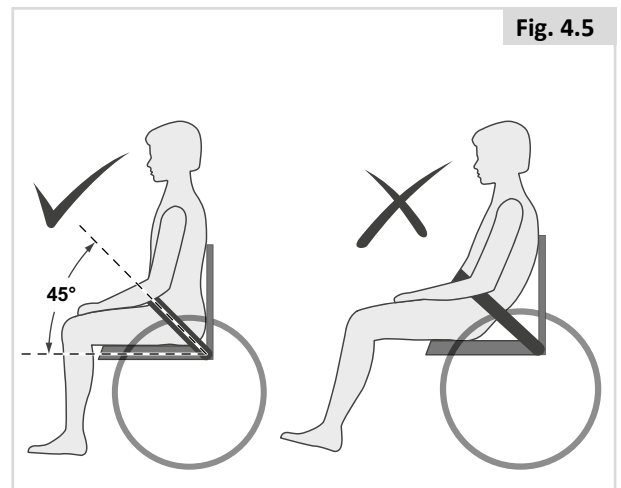

Fig. 4.5
- Generally, the lap strap should be fixed so that the straps sit at an angle of approximately 45° (Fig. 4.5), and when correctly adjusted should not allow user to slip down in the seat.